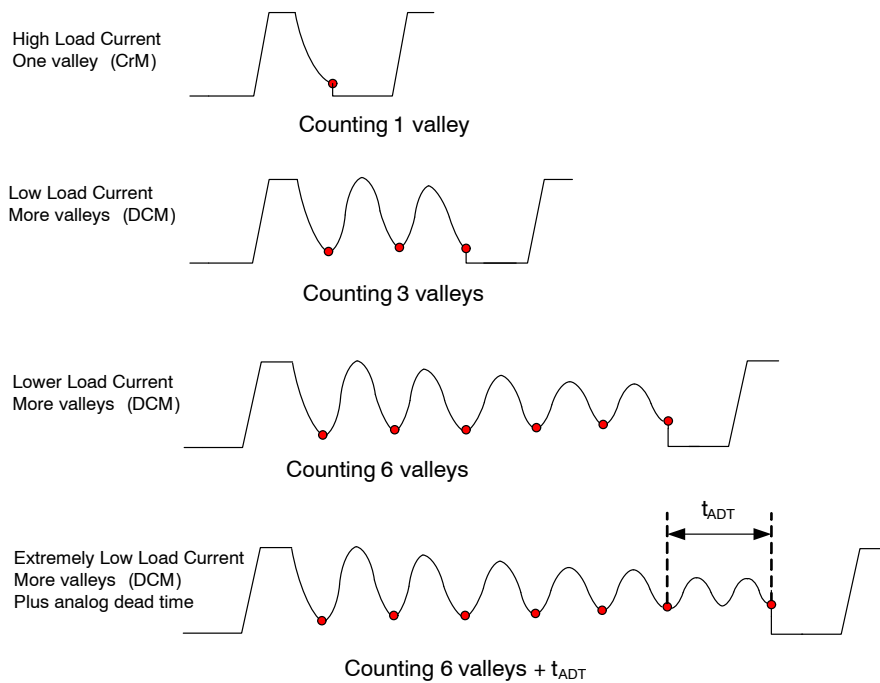
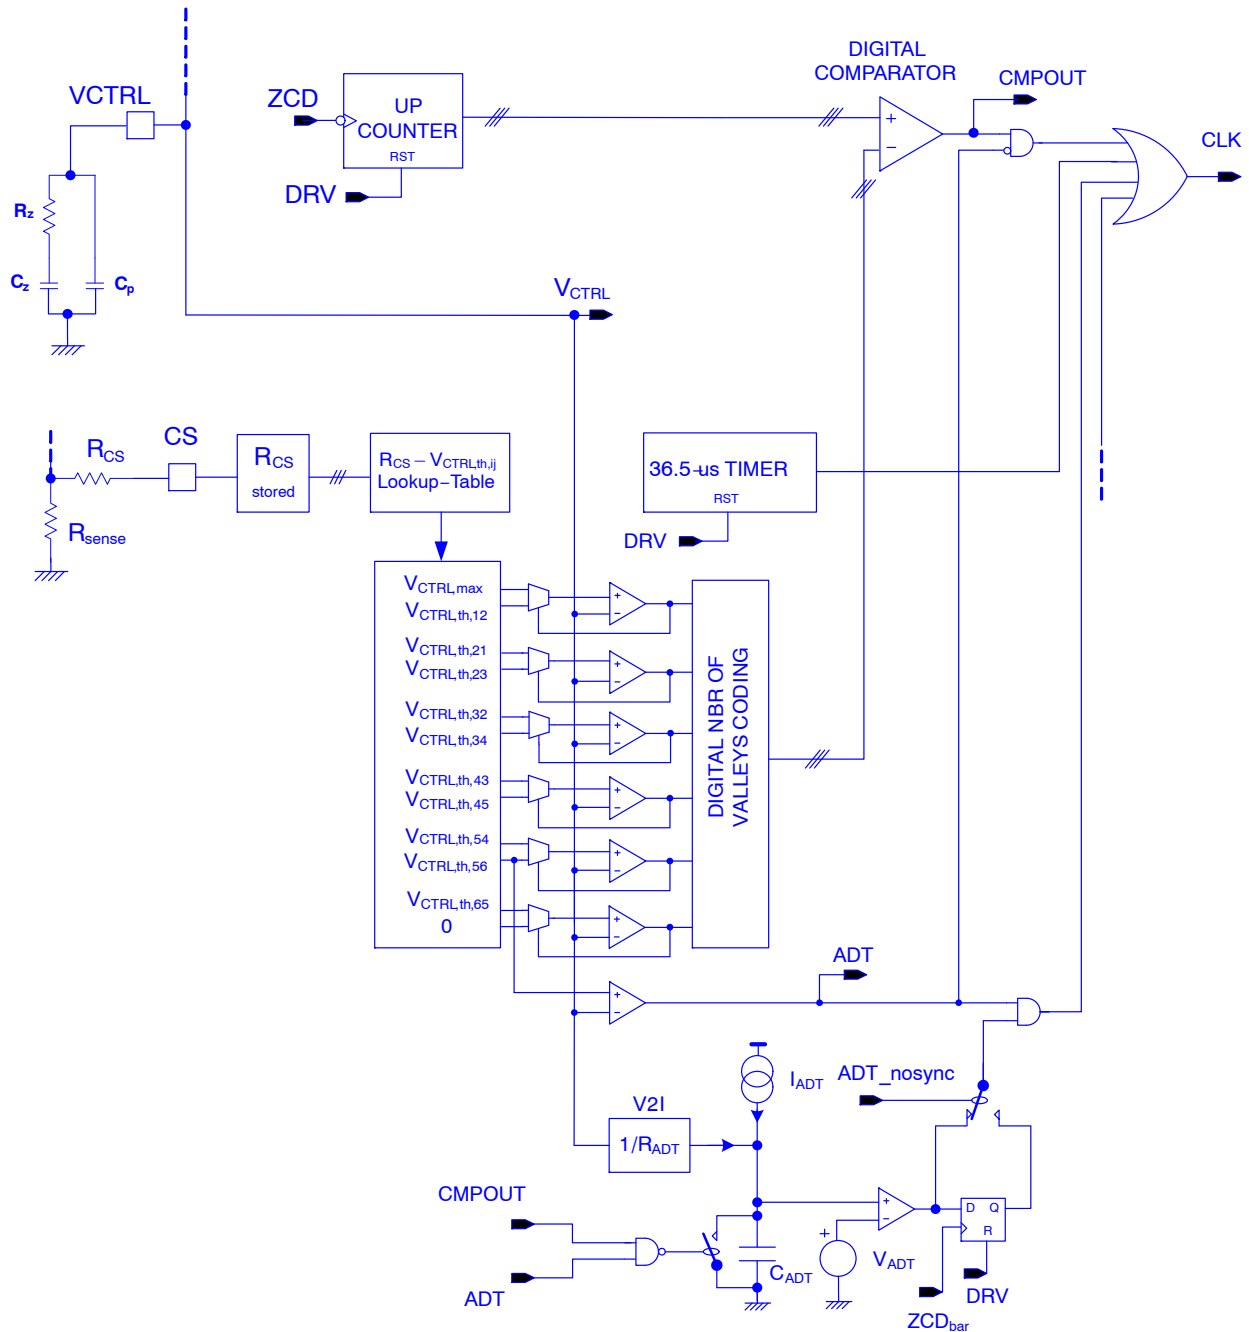

Figure 3. Valley Switching Operation in CrM and DCM Modes Seen Through Power MOSFET Drain Voltage
Figure 4. Valley Count Turn-on Block Diagram
- **Valley Count Frequency Fold-back:** NCL2801 is designed to drive PFC boost stages in so-called Valley Count Frequency Fold-back (*VCFB*). In high load current condition, the circuit classically operates in *Critical conduction Mode (CrM)* also called 1st valley switching. When output power is decreasing, if a threshold is reached (determined by sensing the CS pin impedance during initial power up), a dead time based on a number of valleys is added. The number of valleys will increase, each time a dead time window (based on V_{CTRL} value) is entered. By construction, this counting process will avoid valley hopping during the mains voltage period. If the output power continues decreasing and the 6th valley is reached, extra “analog” dead time will be added based on a voltage ramp (see Figure 4). On-time will be synchronized with a valley. A timer will clamp the total switching period to not exceed 36.5 μ s (the switching frequency will never go under about 27.4 kHz). The switching frequency depends on output voltage, input voltage, and boost inductor value, and increases as the load power increases. Hysteresis is added to the V_{CTRL} control windows to avoid valley hopping during steady state conditions. *VCFB* maximizes the efficiency at both nominal and light load. Similarly to *FCCrM* controllers, an internal circuitry allows near-unity power factor even when the switching frequency is reduced.
valleys between end of inductor demagnetization and power MOSFET turn-on determines the dead time value). After counting is done, the power MOSFET turns on at drain voltage valley. When 6th valley is reached and VCTRL voltage stays under 0.77 V, an extra “analog” dead time is added based on a voltage ramp (see Figure 4). The added analog dead time t_{ADT} is based on 0.77 V minus VCTRL value. t_{ADT} will be equal to zero when $(0.5\text{ V} - V_{CTRL}) = 0\text{ V}$ and will increase monotonically versus VCTRL decreases while VCTRL is under the 0.77 V threshold corresponding to $V_{CTRL,th,56}$. The analog dead time added t_{ADT} will equal typically 20 μs when $V_{CTRL} = 0.5\text{ V}$.
As illustrated in Figure 3, under high load conditions, the boost stage is operating in CrM (only one valley is counted before turning on the power MOSFET). The second example shows a DCM state of operation where three valleys have been counted before turning on the power MOSFET. The third example shows a DCM state with lower output power than the previous one where five valleys have been counted before turning on the power MOSFET. The fourth example shows how additional dead time is added after 6th valley.
means of counting the falling edges of the ZCD signal until the counter reaches the number of valleys set by the window in which the VCTRL pin voltage is (see Figure 4). The 3-bit counter allows to work “Valley synchronized” up to six valleys. When the 6th valley is reached, and VCTRL is lower than 0.770 V ($V_{CTRL,th,56} = 0.770$ V whatever frequency foldback threshold setting), an additional analog dead time will be added to the 6 valleys dead time and there will be valley synchronization turn-on of the power MOSFET ($ADT_nosync = 0$ by default) based on falling edge of ZCD signal. The total dead-time (number of valleys and extra analog dead-time) will not exceed 36.5 μ s. As a result of this timer the minimum switching frequency will not go under 27.4 kHz.
There will be a different DCM to CrM threshold than CrM to DCM making an hysteresis to avoid valley hopping (see Table 7 and Figure 4).
of Table 7 that $V_{CTRL,th,56}$ which is the V_{CTRL} threshold at which we force counting six valleys, has always the same value. This threshold is also called $V_{CTRL,ADT}$ because when V_{CTRL} pin voltage falls under this threshold, an analog dead-time starts to be added to the dead-time determined by counting six valleys. The lower V_{CTRL} pin voltage goes under $V_{CTRL,ADT}$ threshold, the more analog dead time is added. An example on how the analog dead time can be added is shown in the circuit of Figure 4 and the correspond power MOSFET drain voltage is shown in Figure 3.